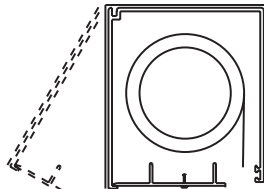

Figure 1
- ① Arrange pieces on floor in the general manner they are to be installed.
- ② On crank headbox, remove small retaining screw that secures front cover to headbox, then remove covers from both headboxes (see Fig. 1).